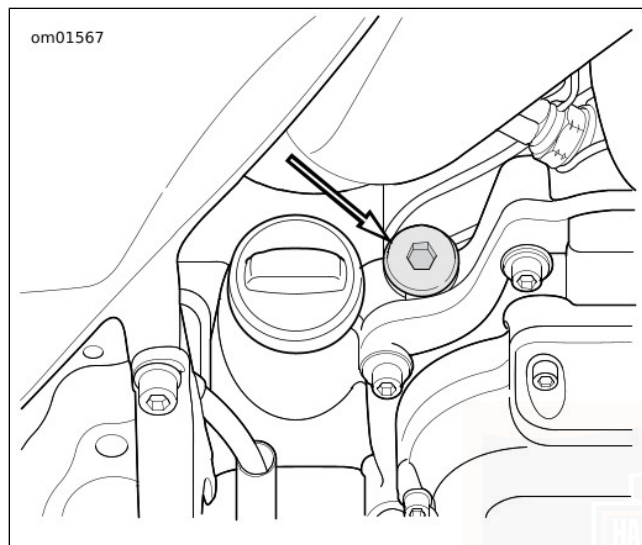

Figure 68. Transmission Filler Plug/Dipstick Location
2. See Figure 68. Remove transmission filler plug/dipstick. Wipe dipstick clean.